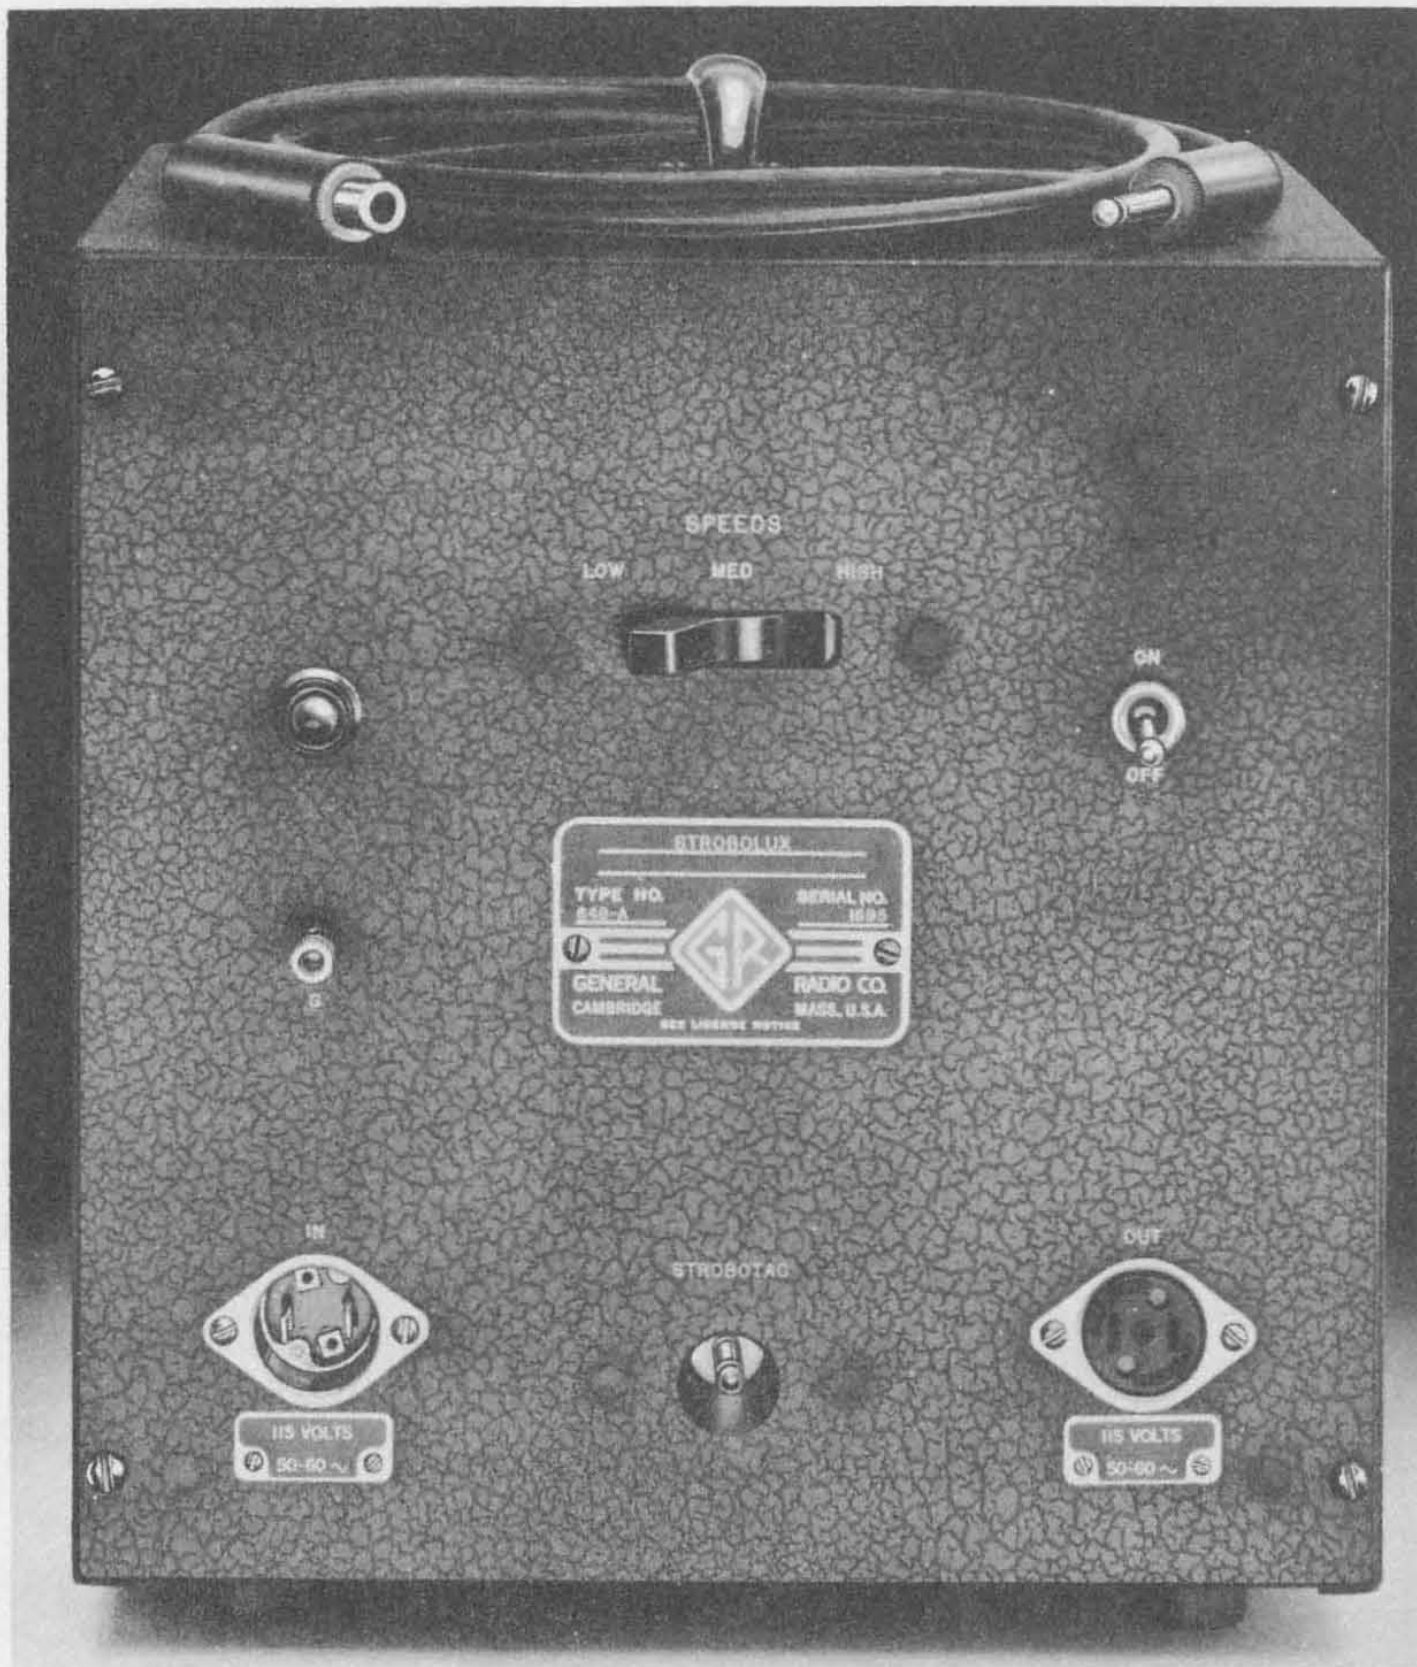

Figure 1. Type 648-A Strobolux.®
1.1 PURPOSE. The Type 648-A Strobolux® (Figure 1), an accessory to the Type 631 Strobotac®, provides, over an area of several feet, a light flash 100 times brighter than that obtained from the Strobotac.